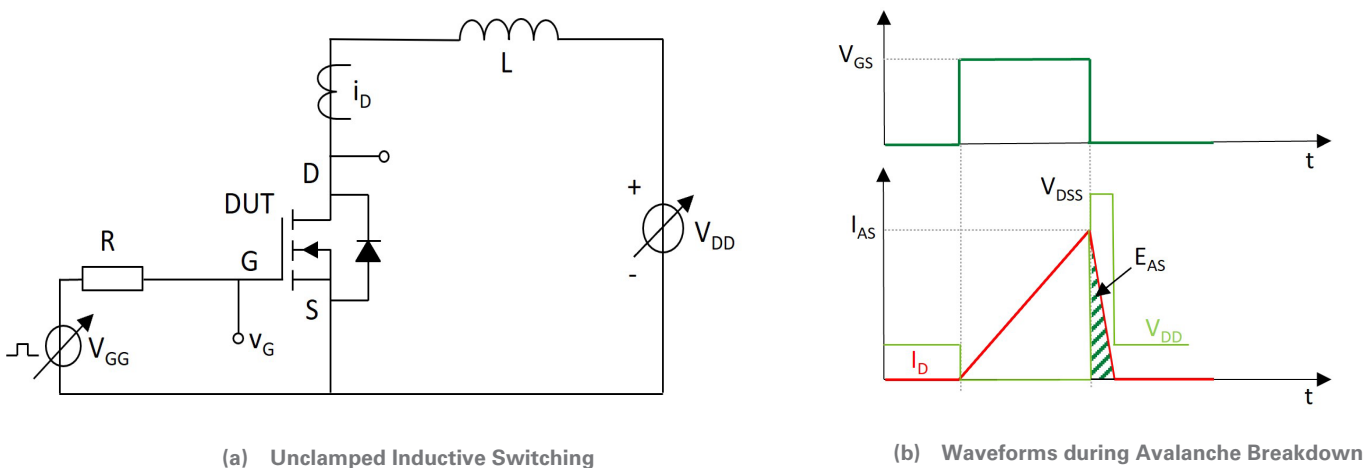

Figure 5. Typical Avalanche Test Circuit
In **Figure 5 (a)**, the Unclamped Inductive Switching (UIS) test circuit, used to test the avalanche capability of a power MOSFET is depicted. In **Figure 5 (b)**, the waveforms during avalanche breakdown are presented. A gate pulse turns-on the MOSFET and allows the current (I_D) to ramp up according to the inductor's value (L) and the drain supply voltage (V_{DD}). At the end of gate pulse, the MOSFET turns-off causing the voltage across the MOSFET to rise sharply. The over voltage is clamped at the breakdown voltage (V_{DSS}) until the load current reaches zero and all the energy is dissipated. The green area shaded in **Figure 5 (b)** is the avalanche energy E_{AS} .